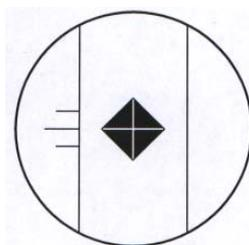

Figure 6-18 *Correct image*
5. Observe the image through objective 20x, one of the diagonals should be horizontal as Figure 6-18 illustrated